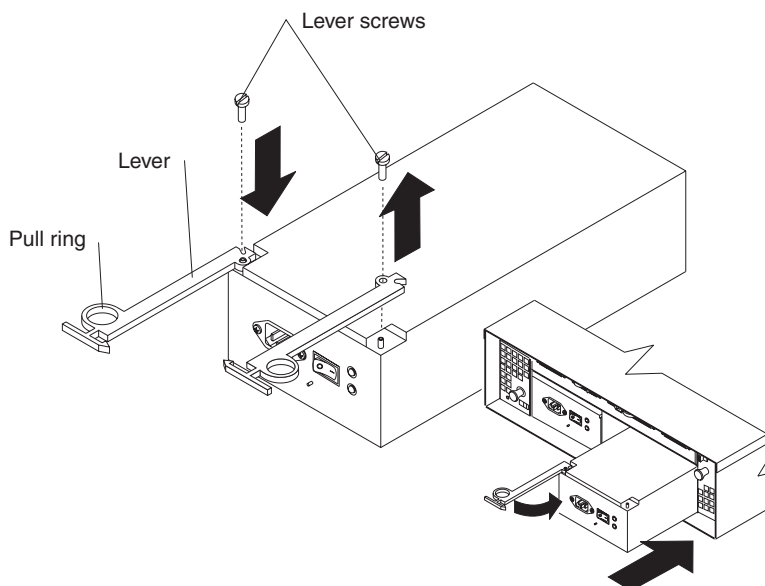

Figure 40. Moving the power-supply lever and replacing the failed hot-swap power supply
Note: When you replace the failed power supply, ensure that the new power-supply lever is attached to the side of the power supply that faces the middle of the expansion unit. If it is not, remove the lever screw, flip the lever over, and tighten the screw on the opposite side as shown in Figure 40 on page 42.
- a. Slide the power supply into the expansion unit. Be sure the lever is pulled straight out as you slide the power supply into the expansion unit (see Figure 40).